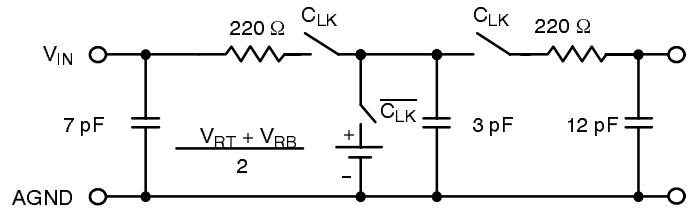

Figure 2. Input Equivalent Circuit
- ⁵ See V_{IN} input equivalent circuit (Figure 2.). Switched capacitor analog input requires driver with low output resistance.
The ideal ADC is a linear building block that has infinite bandwidth and no phase distortion. A real ADC, however, exhibits finite bandwidth and non-constant group delay characteristics as well as non-linear behavior due to the non-zero INL characteristic. When modeling the ADC as a linear element and a quantizer, the circuit shown in Figure 2. can be used in order to represent the ADC's bandwidth.
1. Driving the analog input - The input impedance can be represented as a switched capacitor type input circuit, i.e. the input impedance changes with the phase of the input clock. Figure 2. shows an equivalent input circuit. In many applications, the input impedance can be treated as capacitive. For fast signals and a high driving impedance, a wide bandwidth op amp is recommended.